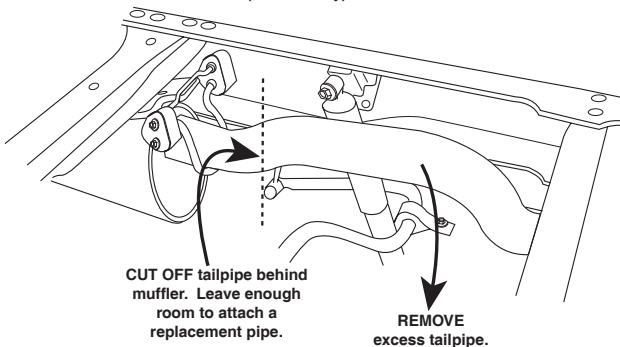
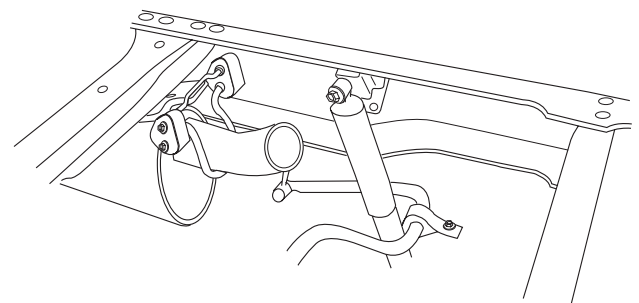

Figure 3
Figure 4
3. Cut off the tailpipe behind the muffler and remove (Figure 3). Leave enough room on the muffler to install a replacement pipe (Figure 4).